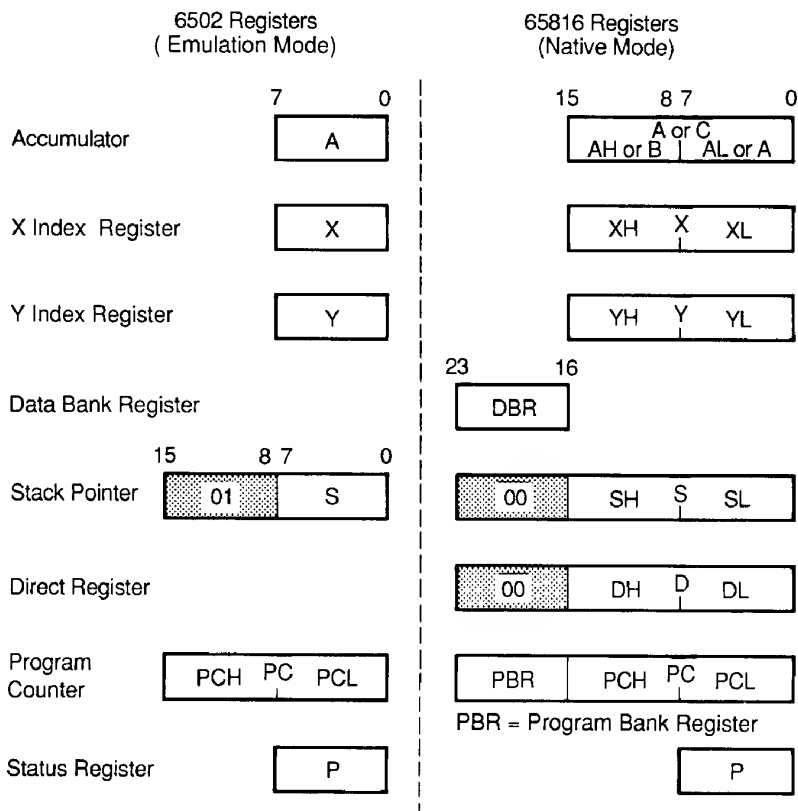

Figure 1-1
Figure 1-1 shows the 65816's internal registers and, because it can operate in emulation mode, the 6502's registers. Note that the 6502's data registers (A, X, and Y) and status register (P) are 8 bits long, whereas its address registers (S and PC) are 16 bits long. This is typical for an 8-bit microprocessor; it has an 8-bit data bus and a 16-bit address bus. (Incidentally, the
Lest you be mistaken, I must emphasize that the 65816 contains only *one* set of registers: those shown in the right-hand column of Figure 1-1. When emulating a 6502, however, the 816 uses those registers as a 6502 would. It interprets any program reference to the A or X register as meaning AL or XL, limits the stack pointer to 16 bits (and puts hex 01 in the upper
As the shaded “00” in Figure 1-1 indicates, the stack is always in bank 0. Note, however, that while the 6502’s stack must be in page 1, the 65816’s stack can be in any page. In general, though, you shouldn’t worry about where the stack is located, what the stack pointer contains, or what’s on the stack (unless you specifically stored something there). The computer’s software handles all stack operations, so unless you do something awful — such as push two items on the stack but extract only one — you should have no problems.